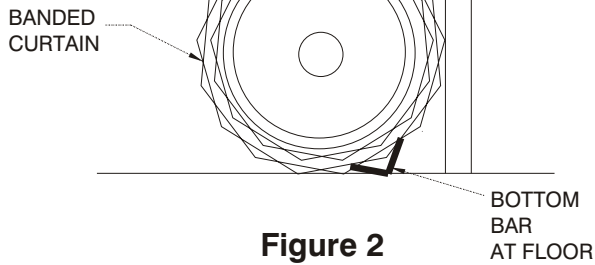

Figure 2
1. Clean the floor at inside of opening and lay the coiled door in position shown. Note position of bottom bar. See Figure 2.